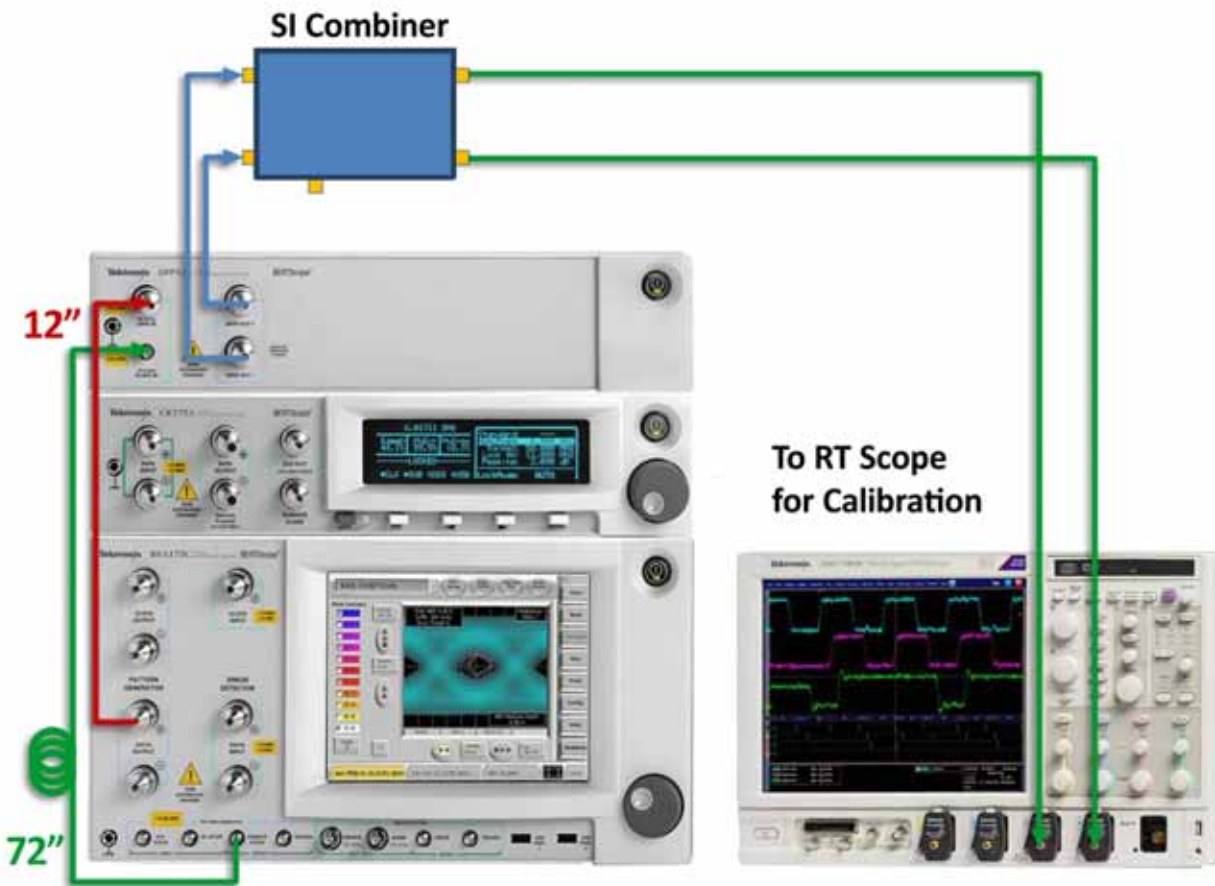

Figure 26: Stress Timing Configuration
- a. **Connect** CBB-Riser to the CBB-Main board, and connect the CLB board to the PCI slot, as shown in the configuration diagram (Figure 26).